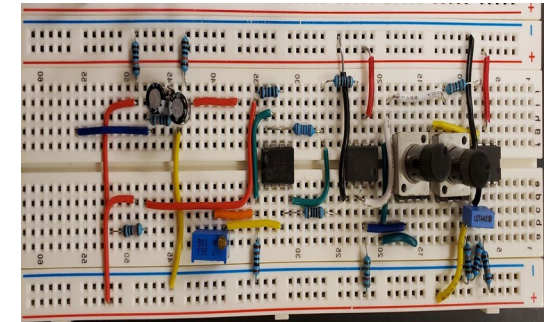

Figure 2: AC Amplifier on breadboard
- Built the circuit on breadboard (Figure 2)